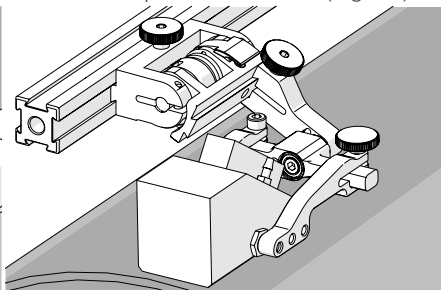

Fig. 52 - Spring loaded scan position
4. Gently lower the probe holder and wedge to the scanning surface (Fig. 52).